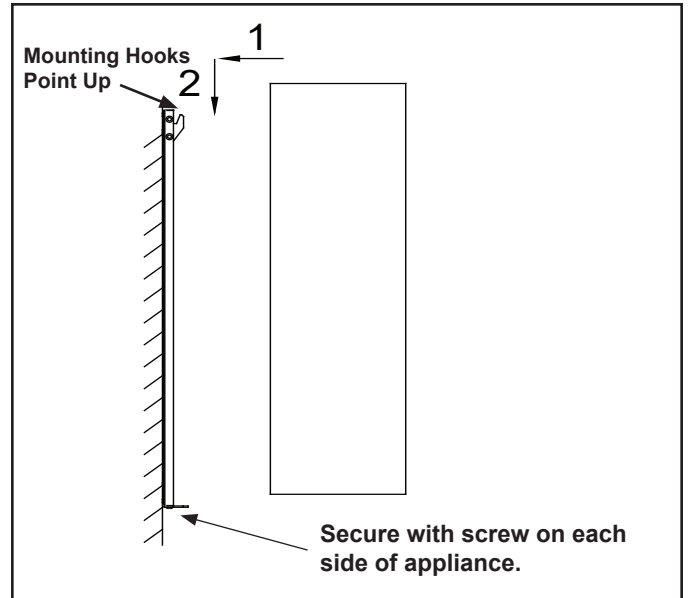

Figure 11 Attach Appliance to Bracket
3. Hang the appliance and pull down to ensure the hooks are fully engaged. See Figure 11.
4. Secure the appliance to the bracket with two M5X10 screws. See Figure 11.